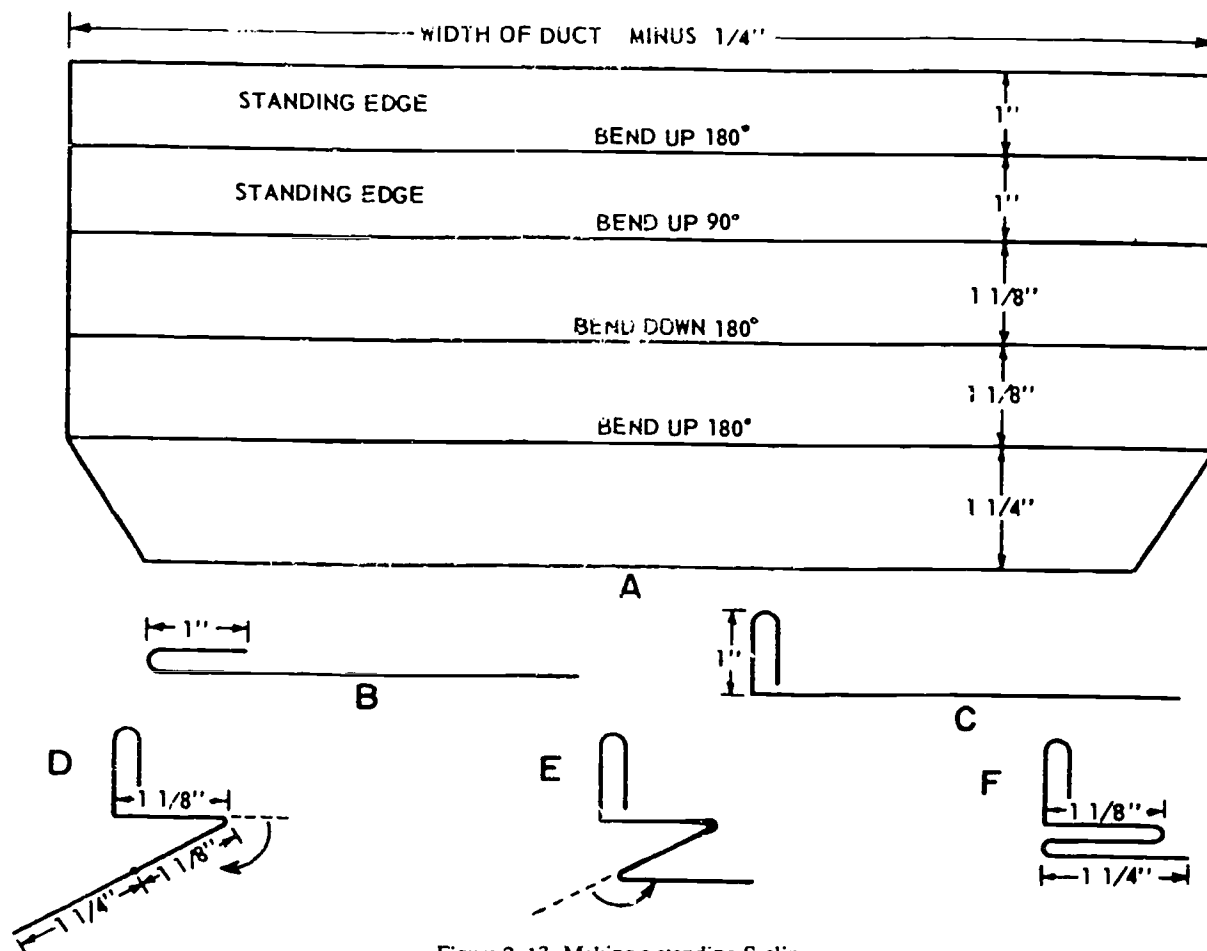

Figure 2-13. Making a standing S-slip.
Fabricating a flat S-slip is not illustrated here, but it is bent (formed) as indicated in D, E, and I of figure 2-13. To make a flat S-slip, the standing edges are omitted from the pattern and steps B and C are not performed. The following paragraphs will clarify this explanation.
Fabricating a standing S-slip is not difficult and is usually done with a cornice brake. The first step is to determine the dimensions and lay out the pattern. The pattern should look like step A in figure 2-13, if you are making standing S-slips with 1 1/8 inches pockets and a 1 inch standing edge. The length of the standing S-slip should be approximately 1/4 inch less than the width of the duct, to give clearance for the corner lock seams. Notice how the 1/4 inch portion of the pattern is cut at a 45° angle to make installation easier. For training
purpose; we have included the braking instructions on the pattern, and in steps B through F of figure 2-13, the directions of the bends are indicated.
In step B of figure 2-13, the standing edge is bent 180° at the 1 inch line. Next, in step C, the metal is bent up 90° at the second 1 inch line. In step D, the metal is turned over in the cornice brake, and then bent approximately 150° at the third line between the two 1 inch measurements. In step E, the metal is again turned over in the cornice brake and bent approximately 150° at the fourth line between the 1 - and 1¼-inch measurements. In the final step (F), the two 150° bends are flattened with the cornice brake until they are each 180°.